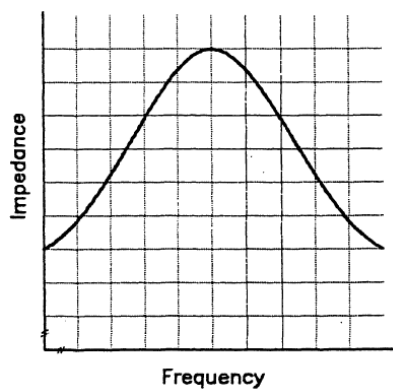

Figure 12 – Impedance characteristic of a parallel resonant circuit
56. The impedance characteristic of a parallel resonant circuit can be represented in graphical form as shown in Figure 12.